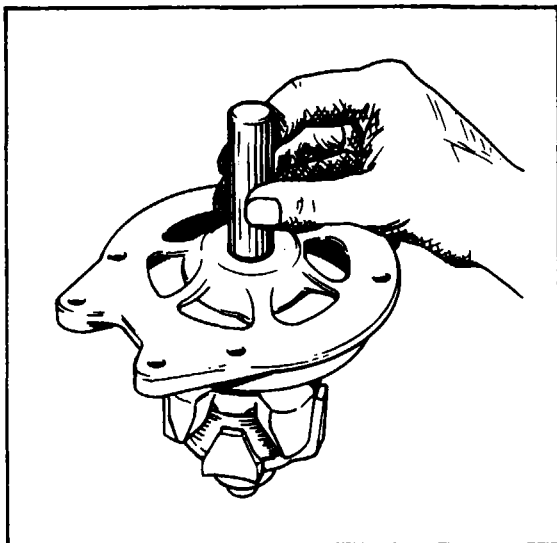

Figure 11-42. Installation of Bearing
a. Press the ball bearing into the drive end head using a flat block approximately two inch square so that the pressure is exerted on the outer race of the bearing. Install the retainer plate. With the snap ring and retainer cup in place on the rotor shaft, use a tool that fits over the shaft and against the inner bearing race, and press until the inner bearing race is against the snap ring retainer cup. (Refer to Figure 11-42.)